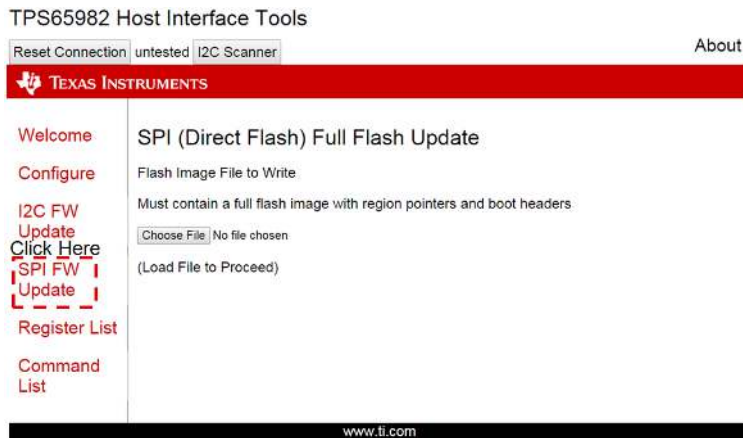

Figure 15. SPI Firmware Update Screen
- Step 1. Click the *SPI FW Update* link on the left side of the GUI (see Figure 15).